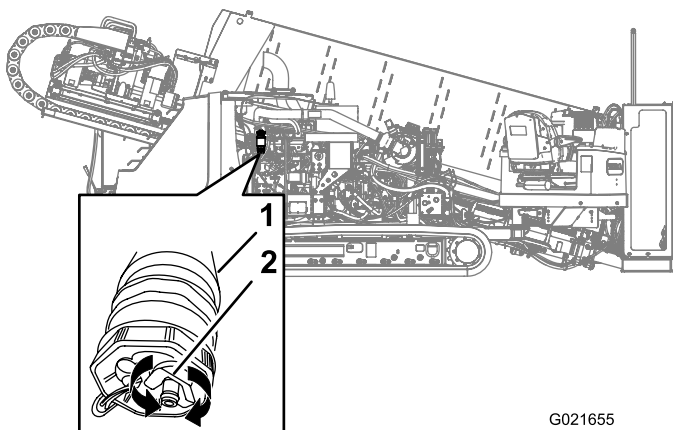

Figure 89
3. Align a drain pan under the secondary-fuel filter (Figure 89).
and drain any water and sediment from the fuel filter (Figure 89).